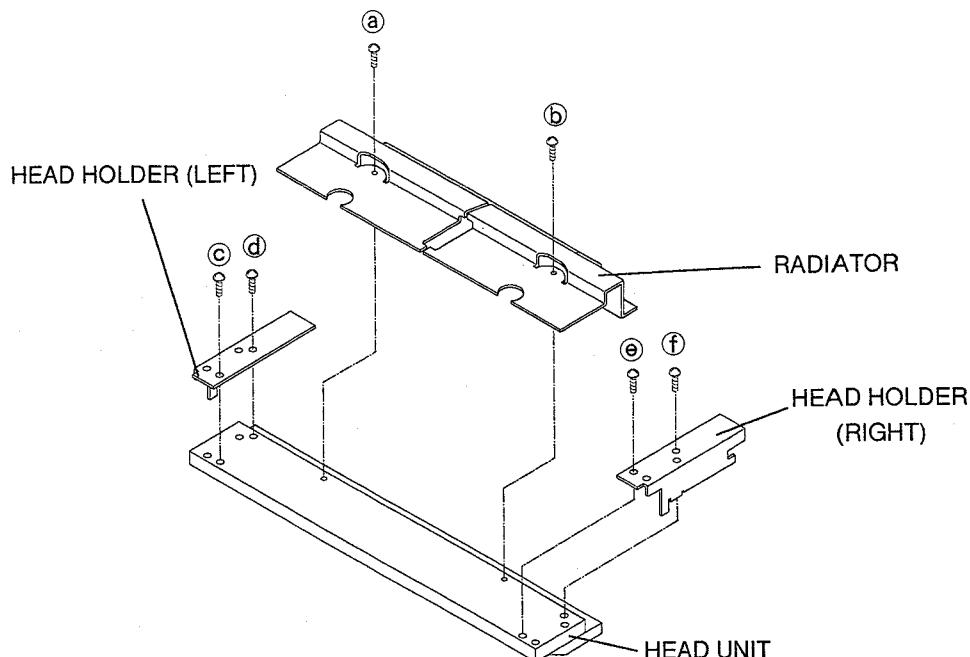

Fig. 2-2
6. Remove two screws (Ⓐ and Ⓑ) securing the RADIATOR shown in Fig. 2-2 to remove the RADIATOR.
7. Remove two screws (Ⓒ and Ⓟ) securing the HEAD HOLDER (LEFT) shown in Fig. 2-2 to remove the HEAD HOLDER (LEFT).
8. Remove two screws (Ⓒ and Ⓟ) securing the HEAD HOLDER (RIGHT) shown in Fig. 2-2 to remove the HEAD HOLDER (RIGHT).